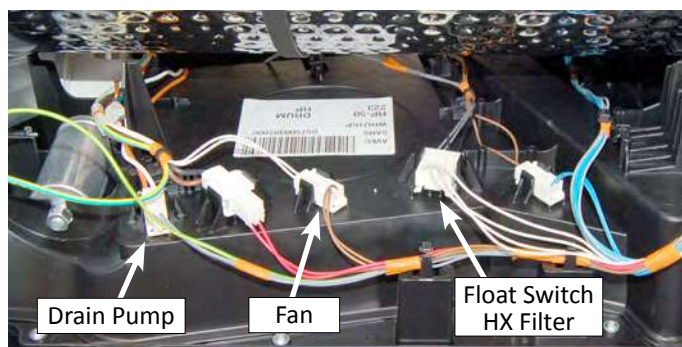

Figure 1
3. Perform the procedure on page 4-9, "Remove the Side Panel(s)" to remove the "left" side panel (see Figure 1).